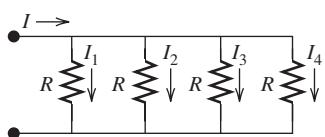

FIGURE P3.27 Circuit for Problem 3.27.
- 3.27 (A)** Find I_1 , I_2 , I_3 , and I_4 in Figure P3.27.